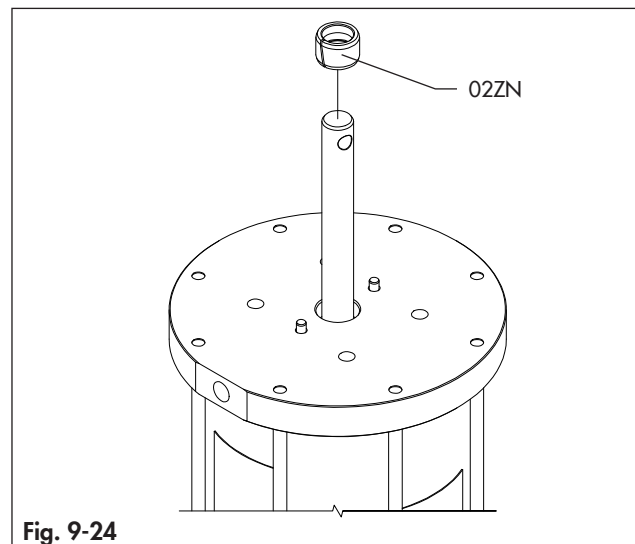

Fig. 9-24
- Remove the sleeve (02ZN). (Fig. 9-24).